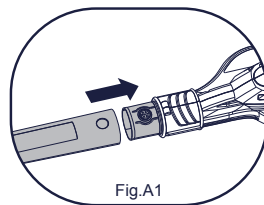

Fig.A1
1 ASSEMBLING THE BLOWER TUBE (See Fig. A1-A3)
- 1) Before assembling the Blower Tube (4), be sure the On/Off Switch (2) is in "O" position.
- 2) Fit the Blower Tube to the motor housing as shown in Fig. A1.